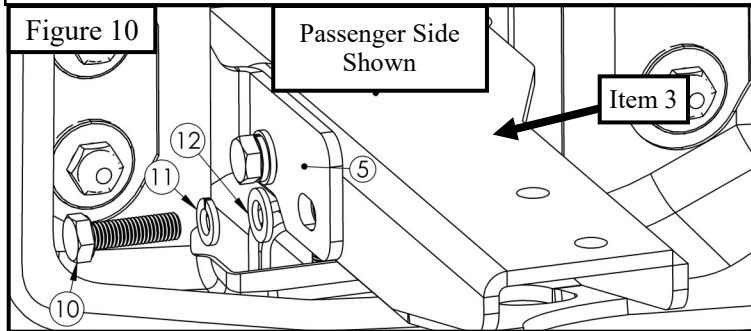

Figure 10
6. Remove the factory tow hooks. **Note:** Factory tow hooks will not be re-used. **See Figure 10.**